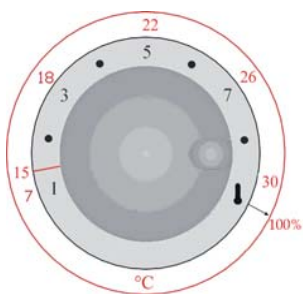

Figure 3 : Scale of the knob 1 of Regulator
2. Turn knob 1 to the desired temperature. As illustrated on the scale (See figure 3). The temperature ranges between 7°C to 30°C; number 1 correspond to about 7°C setting up to the end of the regulation scale, at the very end of the scale there is the temperature bulb symbol for (100% max power), at this point it is possible to maintain the maximum temperature continuously. The scale of the knob 1 isn't linear, it's an expanded scale. Use this scale to set the desirable temperature.